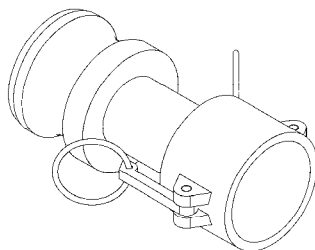

Figure 6. Flushing Adapter.
13. Attach flushing adapter from the BII box to the discharge port of the distribution pump. See Figure 6.